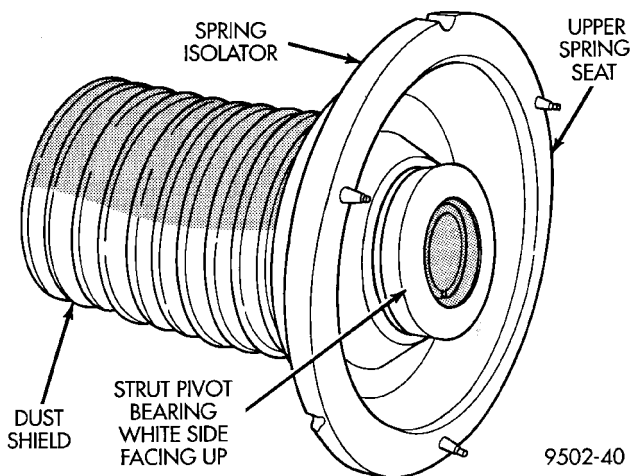

Fig. 66 Upper Spring Mount And Isolator Assembly Components
(10) Inspect the strut mount and the upper spring seat assembly (Fig. 66) for any of the following conditions:
- Binding strut assembly pivot bearing. If pivot bearing is replaced it is to be installed with the white side of bearing facing up (Fig. 66).
(11) Replace any components of the strut assembly found to be worn or defective during the inspection, before assembling the strut.